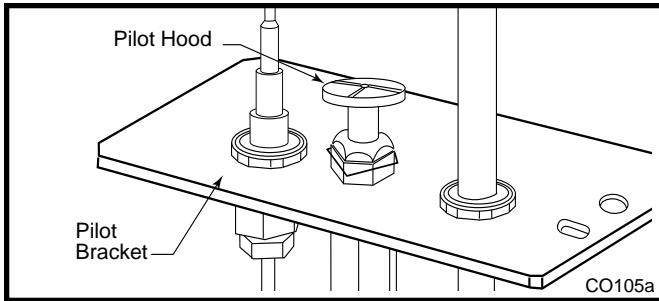

Fig. 31 Remove pilot hood.
- Remove pilot hood by lifting up. (Fig. 31) **NOTE:** It is not necessary to remove the pilot tube for conversion.